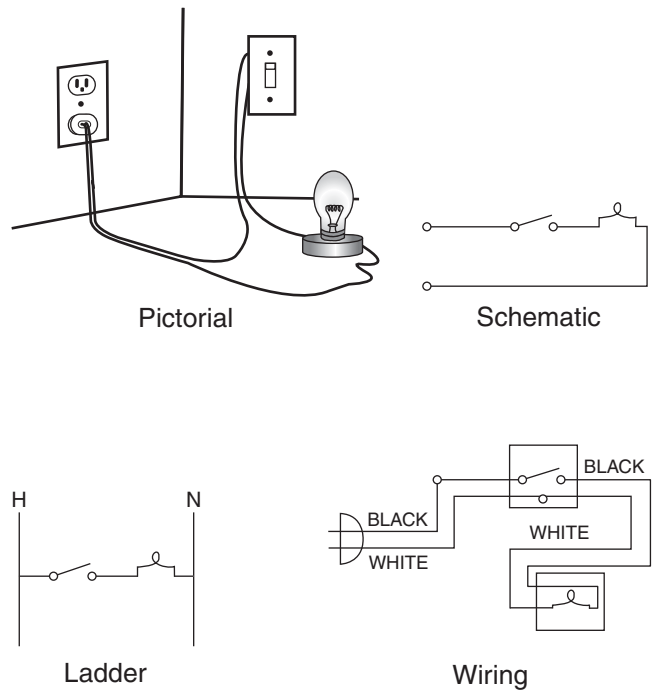

FIGURE 3–21 Types of diagrams.
Diagrams are used to provide circuit information. Four types of diagrams are particularly useful in showing component connection. They are (1) pictorial, (2) schematic, (3) ladder, and (4) wiring. Figure 3–21
Normally, we are only interested in the resistance of loads such as motors, coils, and heaters. However, in electronic circuits and some other special applications, a device called a resistor (Figure 3–22) is used for the sole purpose of providing a resistance and providing no other function. You will find resistors on circuit boards, but you will usually not troubleshoot these boards down to the component level. But sometimes you will. For example, if you use your ohmmeter incorrectly, you can ruin it by blowing out one of the resistors. If you can find the failed resistor (usually by the burn mark around it), it can be replaced with a resistor of the same resistance value. The resistance value of a resistor can be determined from the colors of the four bands. Each different color stands for a different number, as follows: